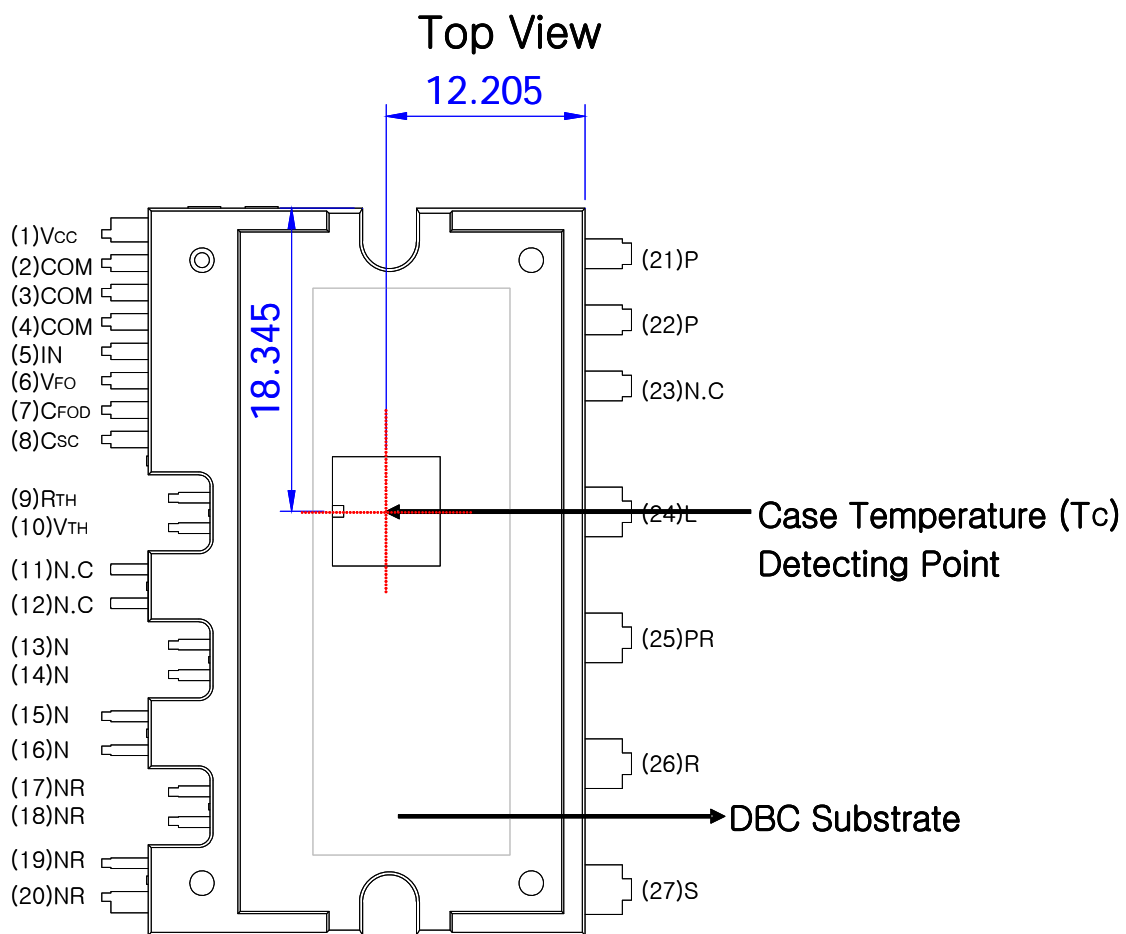

Figure 2. Top View
1. For the measurement point of case temperature(T_c), please refer to Figure 2.
2. For the measurement point of case temperature(T_C), please refer to Figure 2.